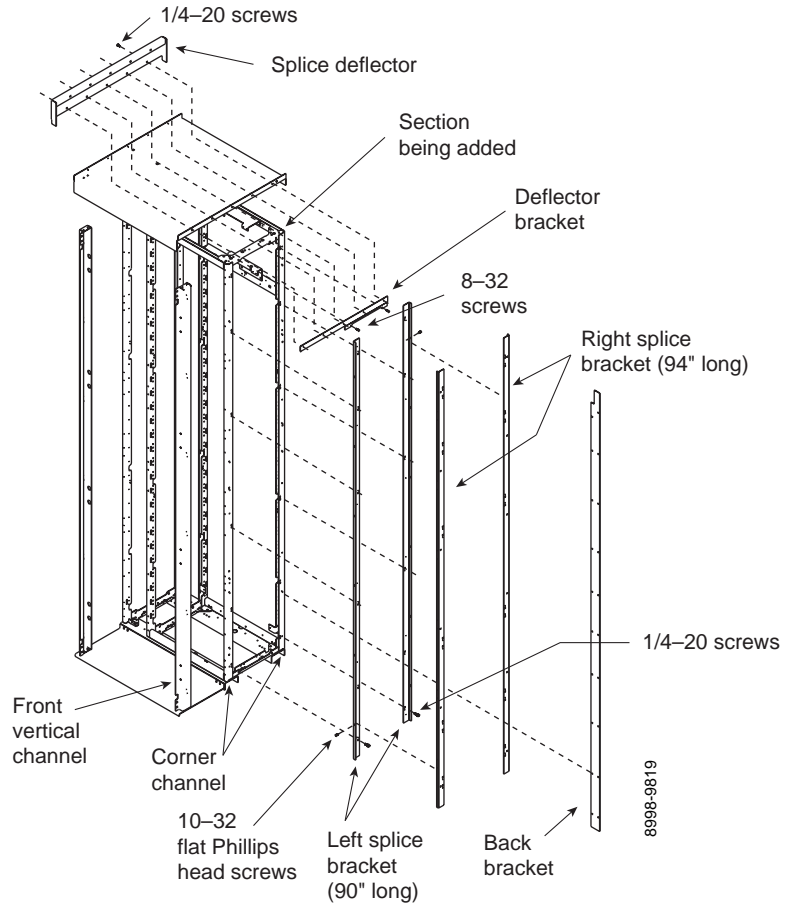
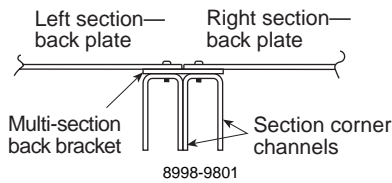
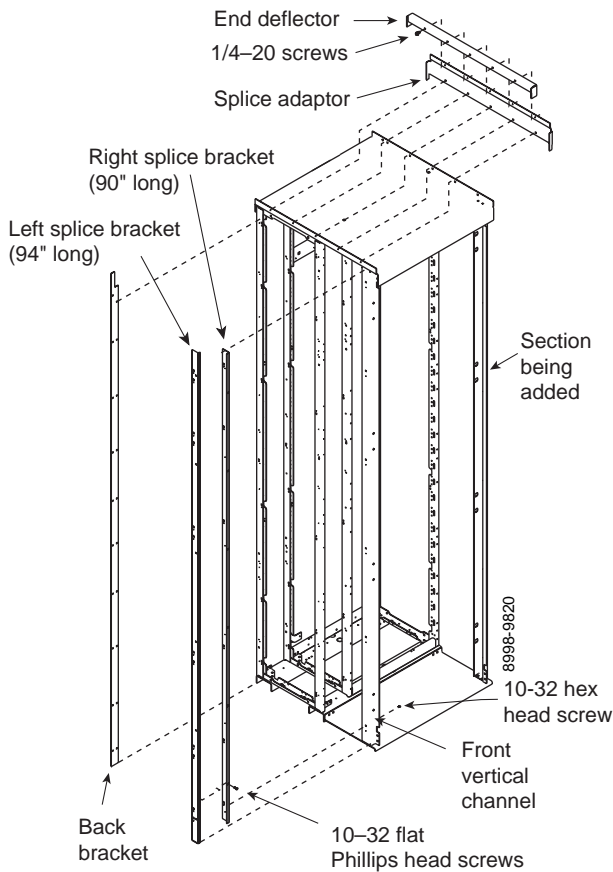

Figure 3: Install the deflector bracket
Figure 4: Re-attach the back plates
Figure 5: Install the splice deflector
5. Install the deflector bracket (see Figure 3) on the rightmost section of the MCC being added using two 8-32 Phillips head screws included in the kit. The same holes from which the rivets were removed will be used to mount the deflector bracket. Ensure that the top holes of the bracket align with the holes in the top plate of the enclosure.
6. Attach a left splice bracket (see Figure 3), 90 inches long, to the front corner channel of the rightmost section of the MCC being added using six 1/4-20 screws contained in the kit. Ensure that the short flange is flush with the front of the corner channel and that the holes in the bracket line up with the holes in the corner channel.
7. Install a left splice bracket (see Figure 3), 90 inches long, to the rear corner channel of the rightmost section of the MCC being added using six 1/4-20 screws contained in the kit. Ensure that the short flange is flush with the back of the corner channel and that the holes in the bracket line up with the holes in the corner channel.
8. Attach a right splice bracket (see Figure 3), 94 inches long, to the left splice bracket installed in Step 6 using six 10-32 flat Phillips head screws contained in the kit. Ensure that the short flange is behind the flange of the left splice bracket. The right splice bracket will extend below the left splice bracket by approximately one inch when properly installed.
9. Install a right splice bracket (see Figure 3), 94 inches long, to the left splice bracket installed in Step 7 using six 10–32 flat Phillips head screws contained in the kit. Ensure that the short flange is in front of the flange of the left splice bracket. The right splice bracket will extend below the left splice bracket by approximately one inch when properly installed.
12. Using the 10–32 hex head screws removed in Step 2, re-attach the back plate (see Figure 4) to the rightmost section of the new MCC. Install the back bracket (see Figure 3 on page 2) under the back plate using the left side holes of the back bracket. Ensure that the notch at the top of the back bracket is installed toward the new MCC section.
13. Using the 10–32 screws removed in Step 2, re-attach the back plate (see Figure 4) to the right section.
14. Install the splice deflector (see Figure 3) to the rightmost section of the MCC being added. Use the five 1/4–20 screws supplied in the kit. Ensure that both top plate flanges are covered.
5. Install the left splice bracket (see Figure 5), 94 inches long, to the right front vertical channel of the existing MCC. Use six 10-32 hex head screws provided in the kit. The long flange of the splice channel will mount to the side of the vertical channel with the short flange near the front of the vertical channel. When properly installed, the bottom of the left splice bracket will be flush with the bottom of the vertical channel.
6. Install the right splice bracket (see Figure 5), 90 inches long, to the left splice bracket installed in Step 5 using six 10-32 flat Phillips head screws provided in the kit. Ensure that the short flange of the right splice bracket is in front of the flange of the left splice bracket. When properly installed, the left splice bracket will extend approximately one inch below the right splice bracket.
9. Re-attach the back plate (see Figure 4 on page 3) to the leftmost section of the MCC being added by using the 10-32 hex head screws removed in Step 3. Install the back bracket (see Figure 5) under the back plate using the right side holes of the back bracket. Ensure that the notch at the top of the back bracket is installed toward the new MCC section.
10. Using the hardware removed in Step 2, re-attach the back plate (see Figure 4) to the rightmost section of the existing MCC.
11. Install the splice adaptor (see Figure 5) to the leftmost section of the MCC being added by using five 1/4-20 screws provided in the kit.
12. Next, position the end deflector, provided in the kit, over the top plate flanges of both sections (see Figure 5) and install with five 1/4-20 screws removed in Step 1.
13. Using six 10-32 hex head screws, provided in the kit, secure the right front vertical channel of the MCC being added to the right splice bracket installed in Step 6 (see Figure 5).